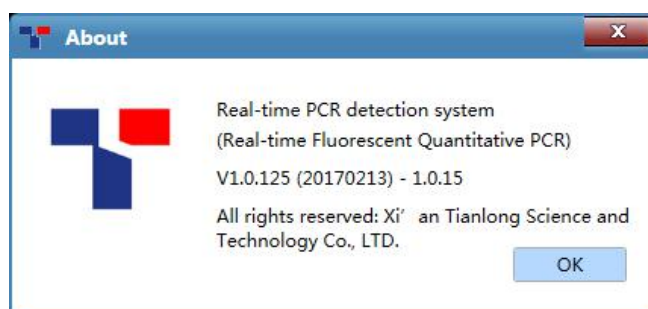

Figure D-3.8 Help submenu - About interface
3. **About:** display the application software version and copyright information, as shown in figure D-3.8.